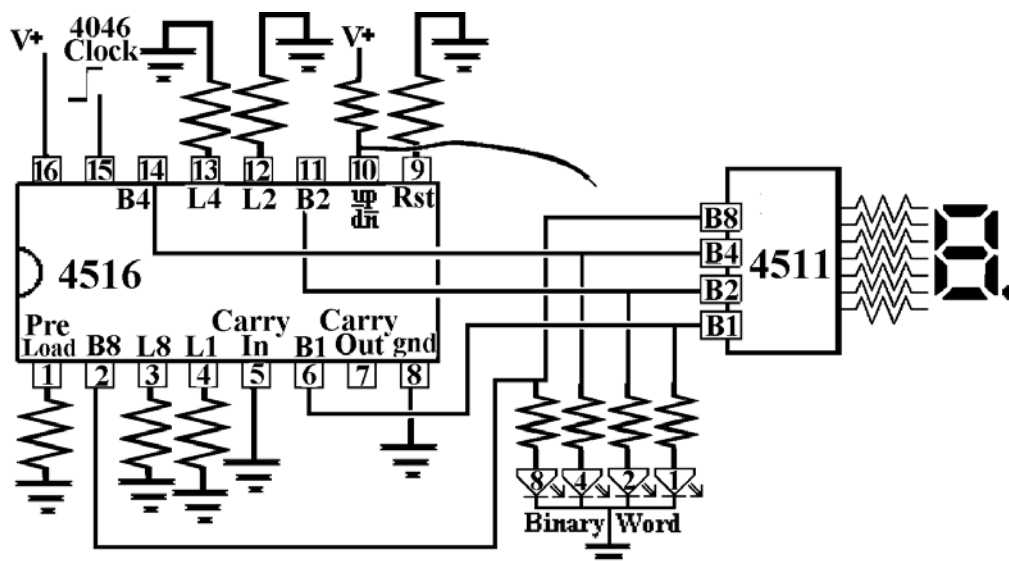

Figure L45-4
- **Up/down counter.** First, try out the up/down counter at pin 10. Use a long wire as shown in Figure L45-4 to connect the up/down control to ground.